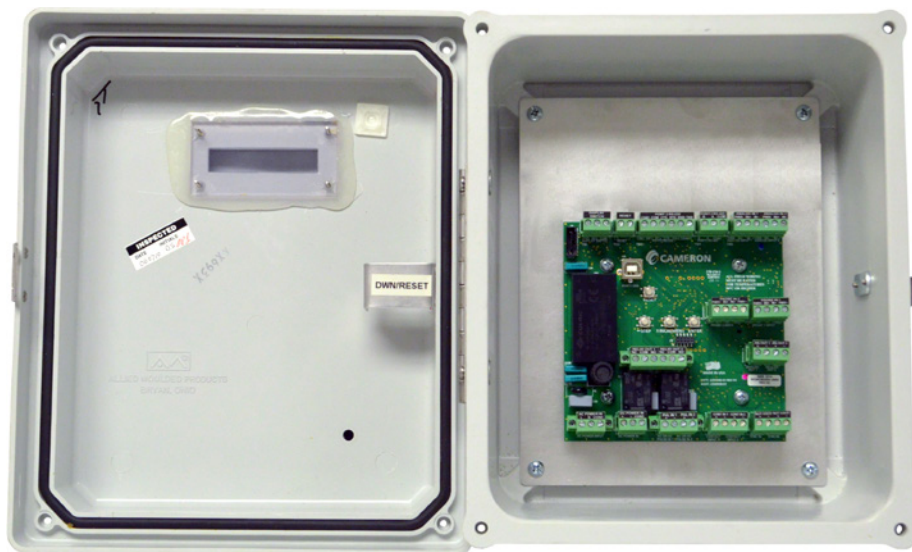

Figure E.2—TA-1000 weatherproof enclosure with retrofit circuit board installed
8. Remove the circuit board and aluminum mounting plate assembly from the retrofit kit packaging and install it in the enclosure using the screws removed in Step 7 (Figure E.2, Page E-2).